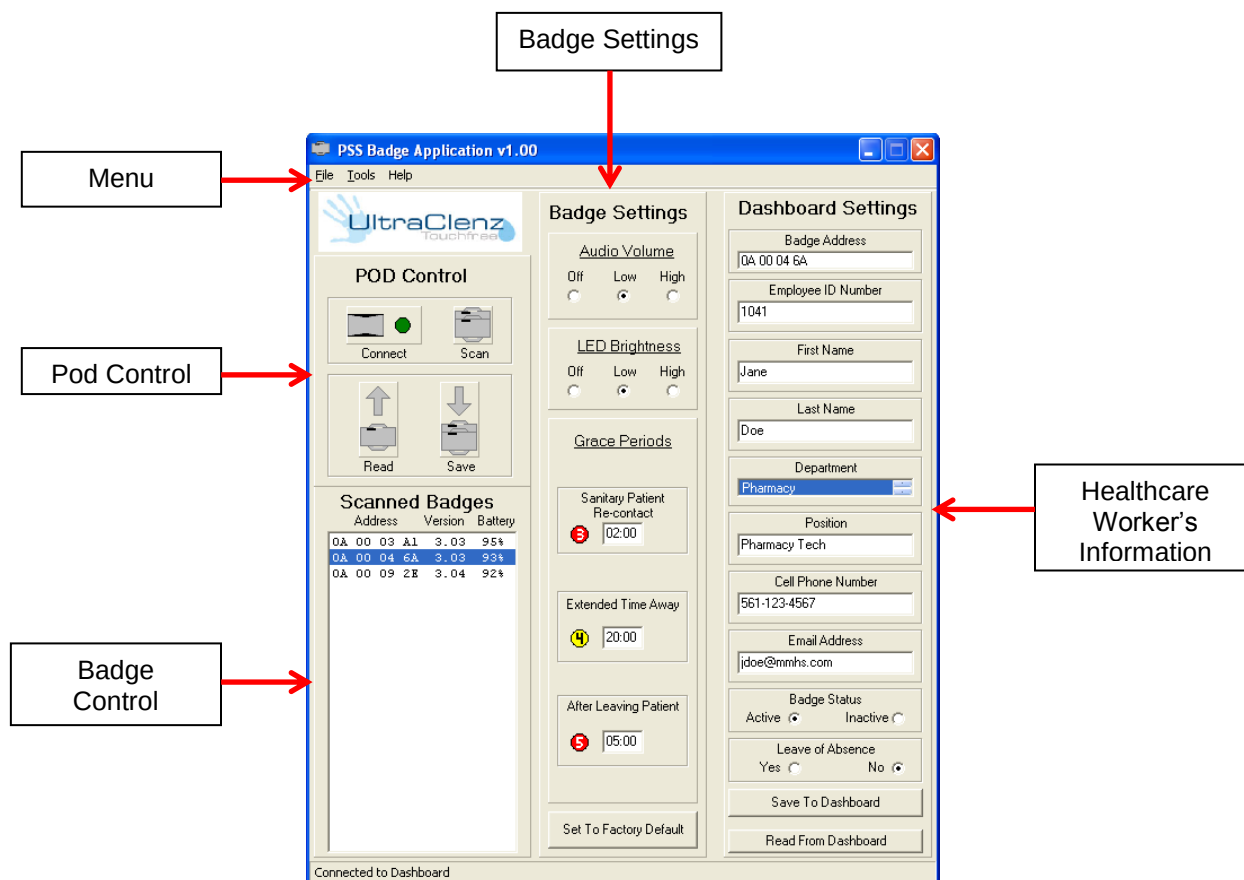

Figure 1 Main Screen
2.0 PSS Badge Application Main Screen (see Figure 1)
2.1 Menu (see Figure 1)